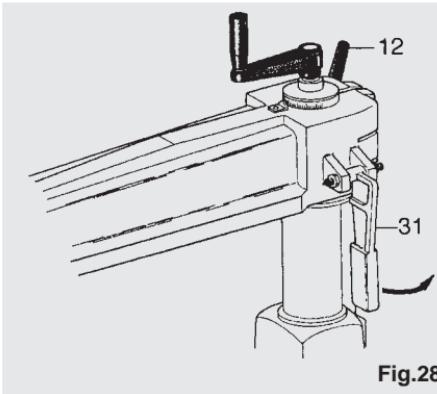

Fig.28
To rotate the head-bearing arm on the pillar support refer to figure 28, which shows the self-centring wedge lever (31) to be raised and the jacquard (12) to be loosened and tightened. Raise and lower the lever only when the jacquard is loosened, so as to take advantage of its self-centring function.